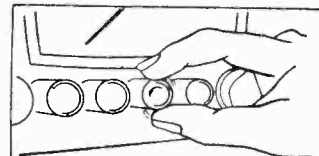

FIG 2 Loosen button by rotating counter-clockwise from 1/4 to 1/2 turn.
1. Loosen the push-button to be adjusted by rotating it counter-clockwise from 1/4 to 1/2 turn. See Fig. 2.